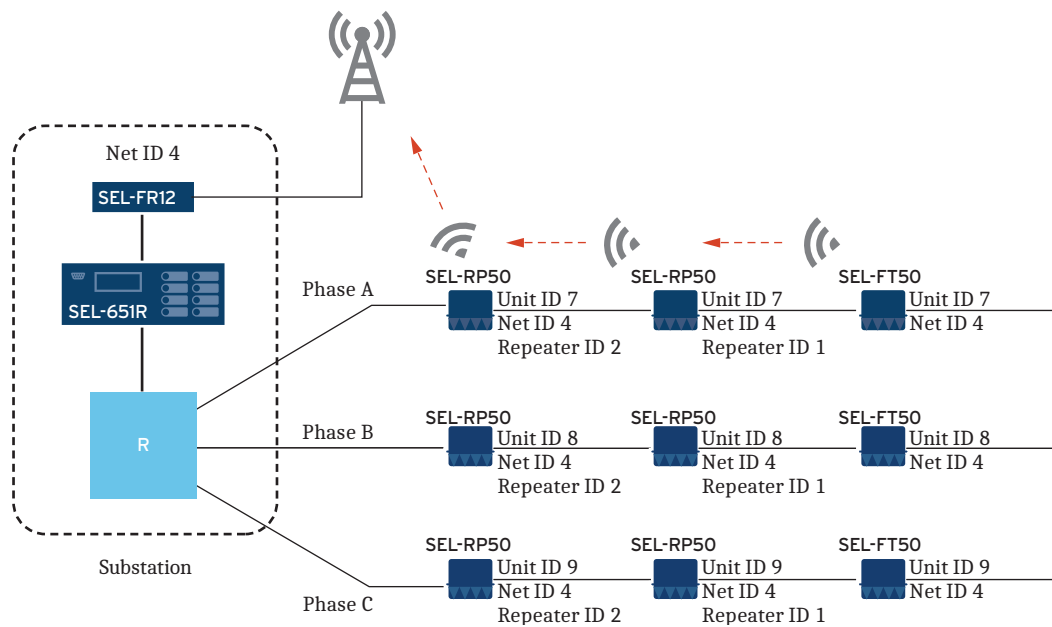
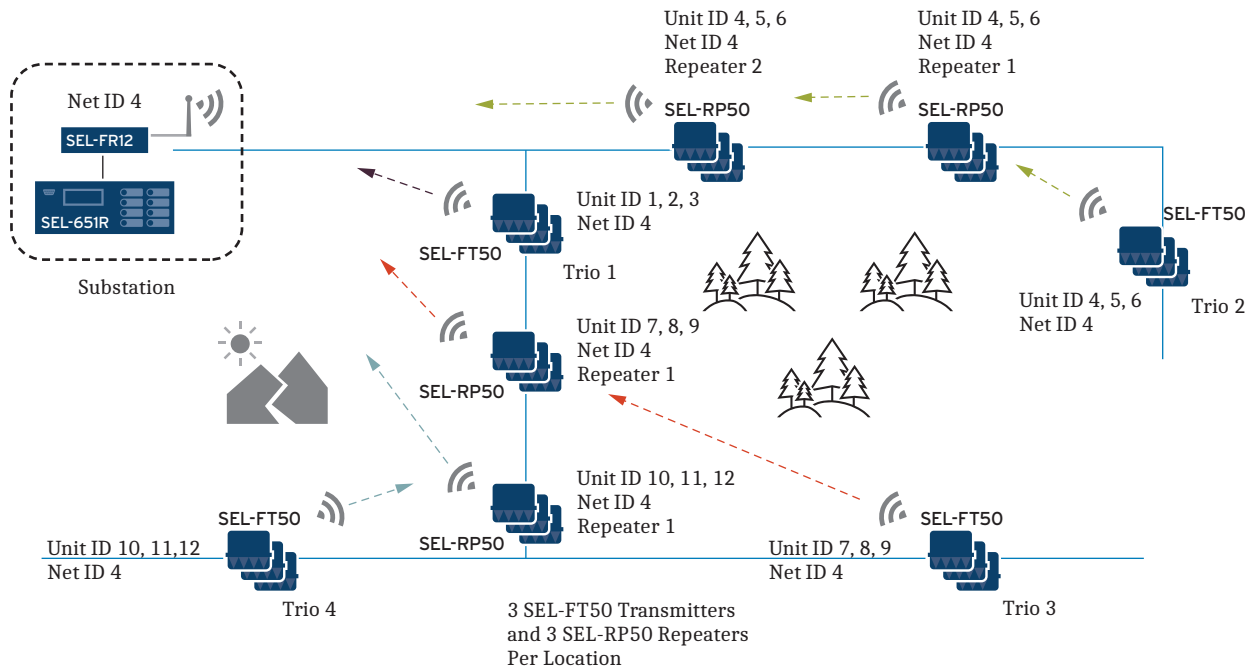

Figure 29 Selection of Unit ID, Net ID, and Repeater ID
Figure 30 Using Multiple SEL-RP50 Repeaters to Avoid Communication Obstructions to Multiple SEL-FT50 Sites
- Each SEL-RP50 only repeats signals from one SEL-FT50 or another SEL-RP50 with matching Unit ID and Network ID. See *Figure 29* and *Figure 30* for application examples.
Refer to *Figure 29* for example settings associated with a simple Wireless Protection System application. The diagram breaks the feeder one-line to show individual phases and to provide the important detail on phase and Unit ID matching between each SEL-FT50 and SEL-RP50. In other diagrams, the three SEL-FT50 transmitters or SEL-RP50 repeaters are drawn in a stacked manner to reduce diagram clutter. Key takeaways from this example:
Figure 30 shows a feeder one-line diagram on a plan view of an idealized geographic area. There are four SEL-FT50 trios, but there are obstructions for three trios that block line of sight back to the SEL-FR12 antenna.